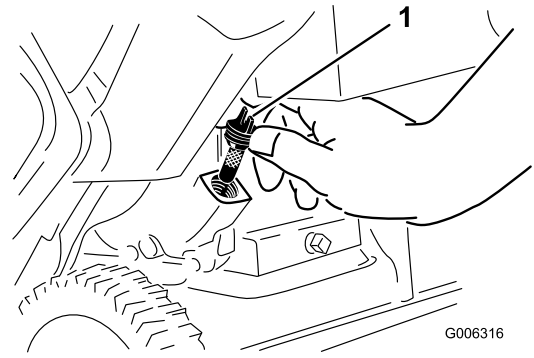

Figure 20
6. Clean around the oil-fill cap (Figure 20).
7. Unscrew the oil-fill cap and remove it (Figure 20).